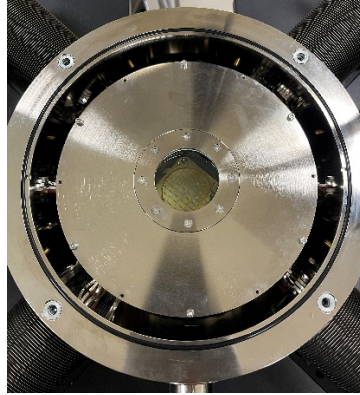

Figure 9. Radiation shield lid
- Use the 2.5 mm hex driver, loosen the M3 captive screws from the outer edge of the radiation shield lid shown in **Figure 9**. Rest the radiation shield lid on top of the vacuum chamber lid.